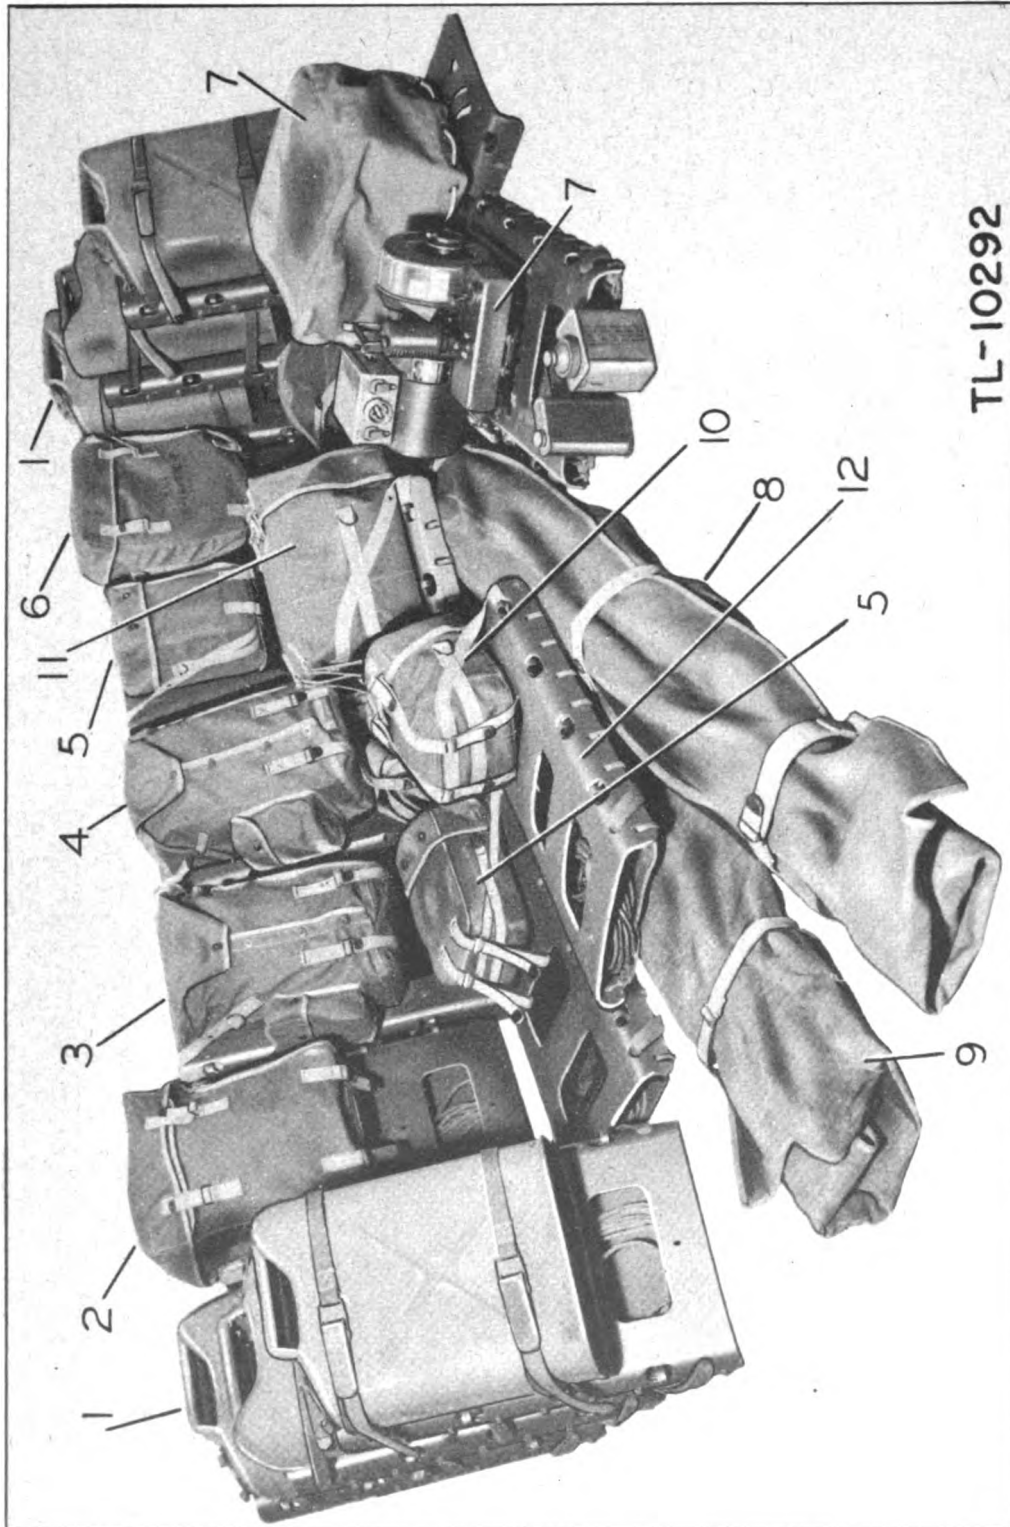
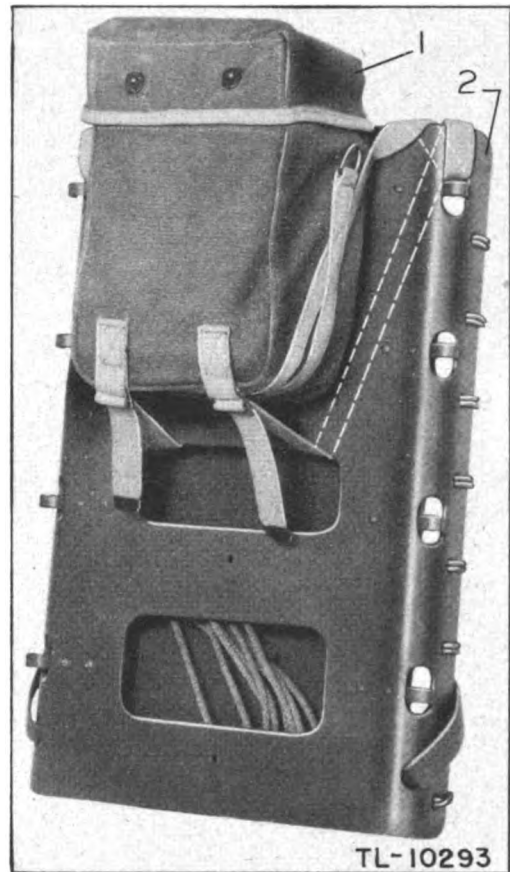
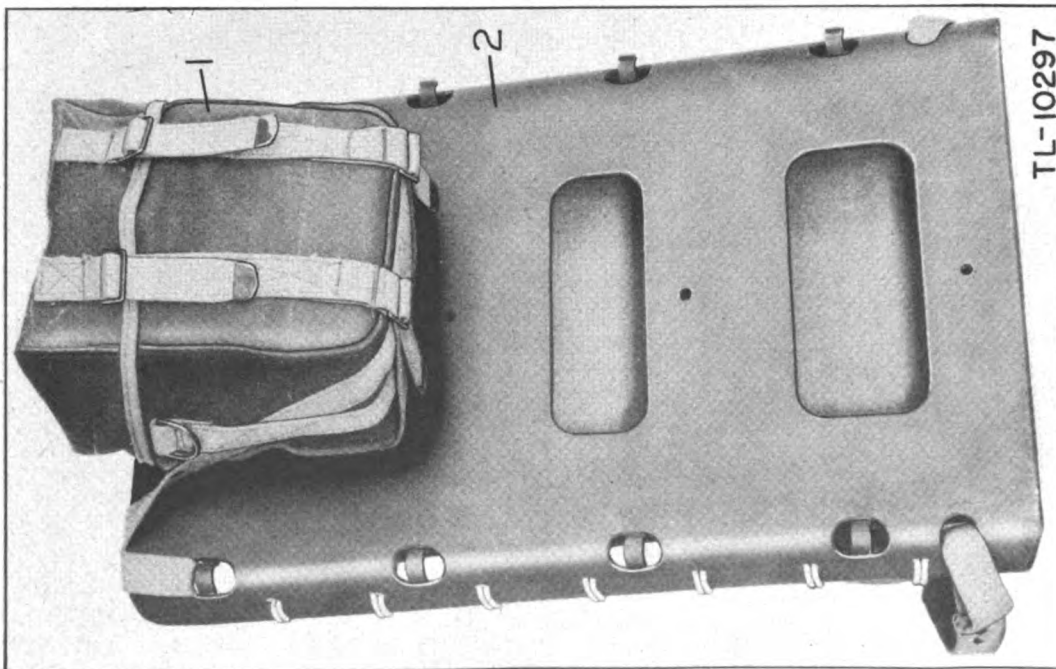

Figure 1—Radio Set AN/TRC-2 Components
Figure 2—Strapping Bags to Packboards
Figure 6—Generator GN-57 on Packboard
Radio Set AN/TRC-2 is a long-range man-packed two-way radio telephone (voice) and radio telegraph (CW) set, designed for field use. The set is divided into a number of individual loads to facilitate transportation of all components by man-pack. The entire radio set, ready for carrying, is shown in Figure 1. The individual loads ready for carrying, and the exploded view of each load, are shown in Figures 2, 3, 4, 5, 6, 7, 8, 9, 14, 16, 20, 21, 24, 25, 29, 34, 35 and 81.
b. Secure the straps so that the load will not shift on the packboard. First wrap the mounting strap a complete turn around the top cross bar of the packboard. Then pass the strap down between the board and the canvas and pull it out through the hole at the bottom of the bag. Fasten with the buckles provided. Figure 2 illustrates how the straps should be arranged for one package. Location of each bag on its packboard is shown in Figures 6, 9, 14, 20, 21, 24, 25, 34 and 35.